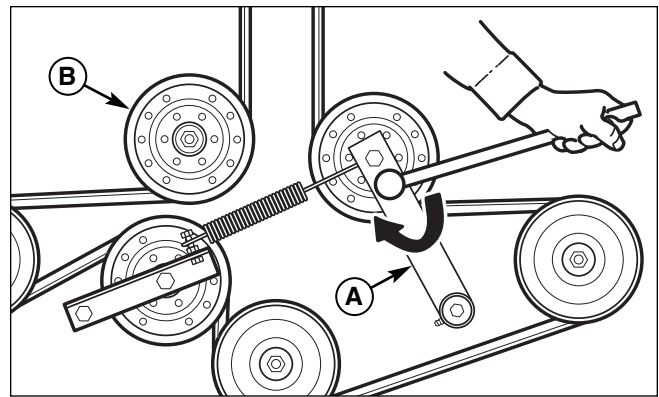

Figure 41. Mower PTO Belt
3. Using a 1/2" breaker bar, place the square end in the square hole located in the end of the idler arm (A, Figures 41). Carefully rotate the breaker bar clockwise, which will relieve the tension on the belt exerted from the idler arm.
6. Install the drive belt on the PTO pulley, the spindle pulleys and all idler pulleys except the stationary pulley (B, Figure 41). Carefully rotate the breaker bar clockwise and install the belt on the stationary idler pulley (B). Carefully release the tension on the breaker bar.